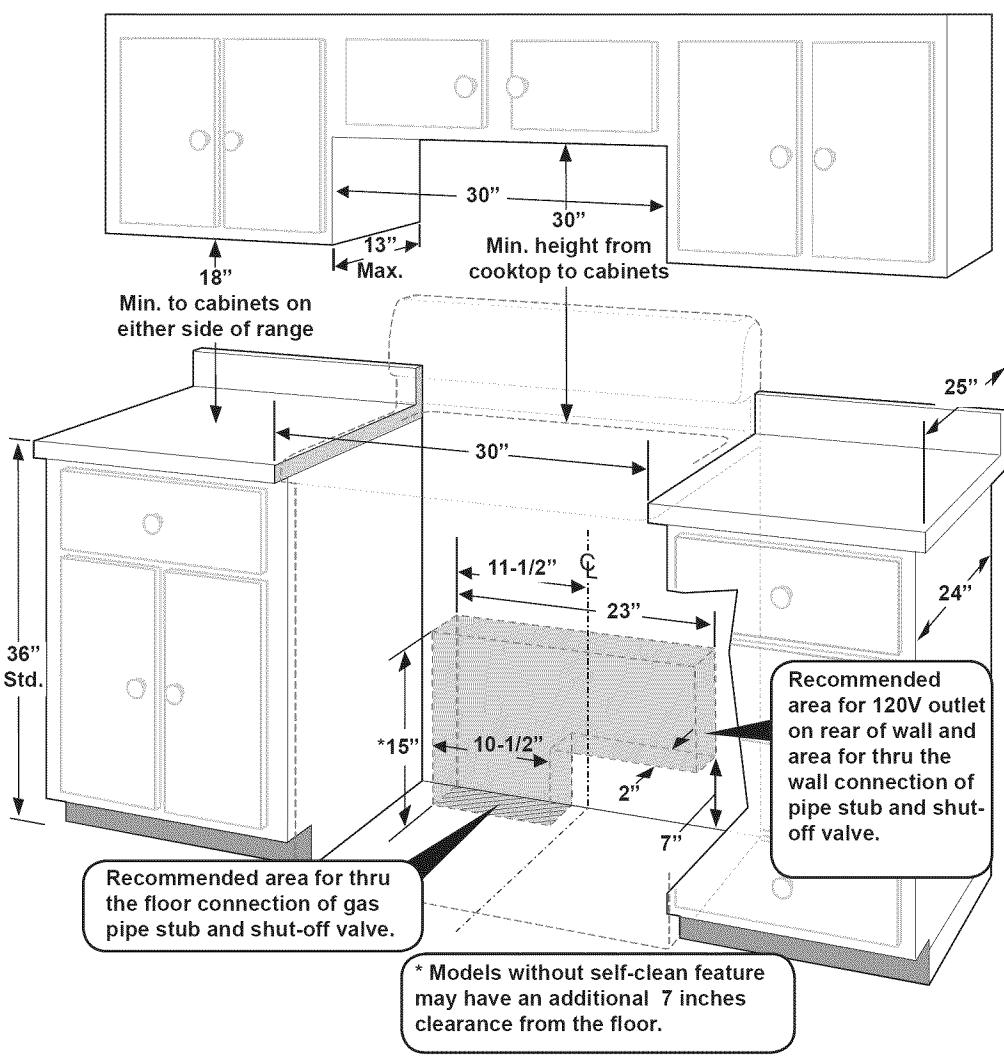

Fig. 1
- If cabinet depth is greater than 25", the oven front frame must extend beyond cabinet front by 1/2" minimum (See Fig. 1).